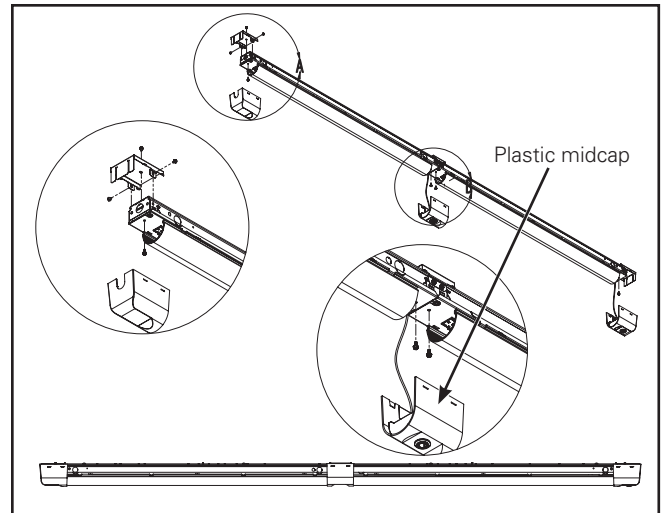

Figure 7.
5. Install end bracket and channel cover on the channel housing with provided screws (Figure 7).